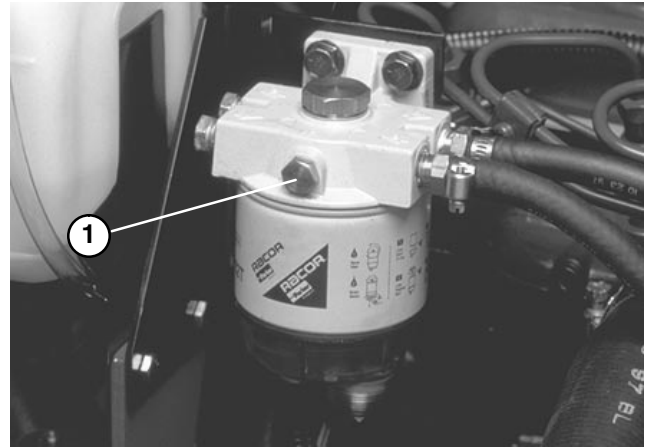

Figure 30
BLEEDING FUEL SYSTEM (Fig. 30 – 32)
2. Loosen air bleed screw on top of fuel filter/water separator (Fig. 30).